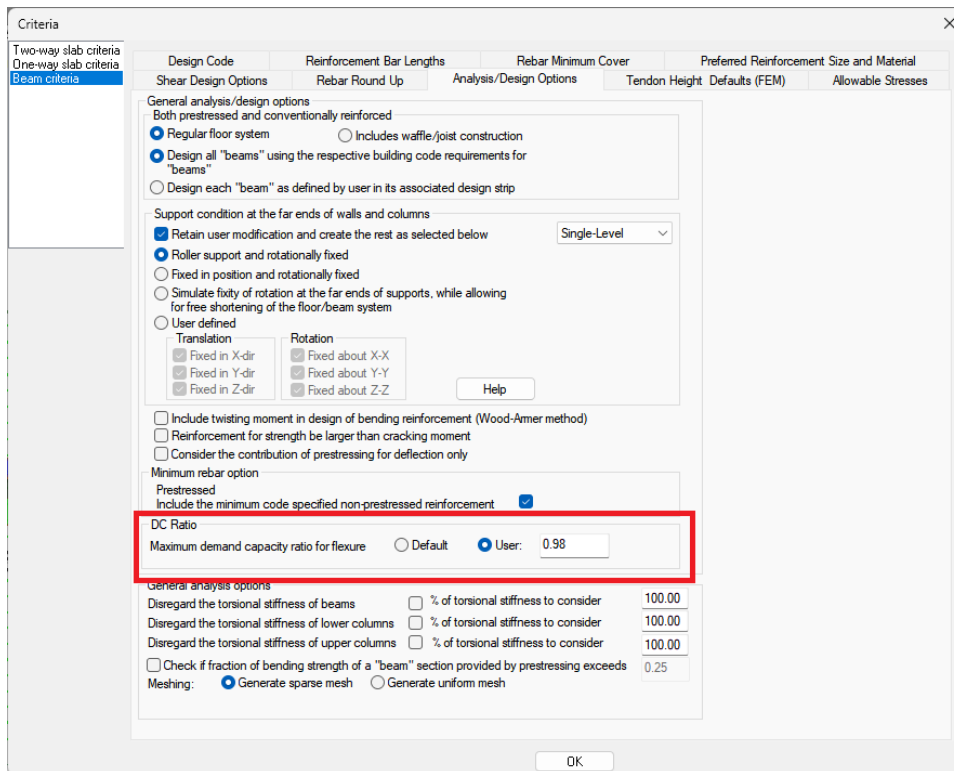

FIGURE 9-122
- Click in the text box and type **0.98** for the new DC Ratio limit. The window should now look like **FIGURE 9-122**.